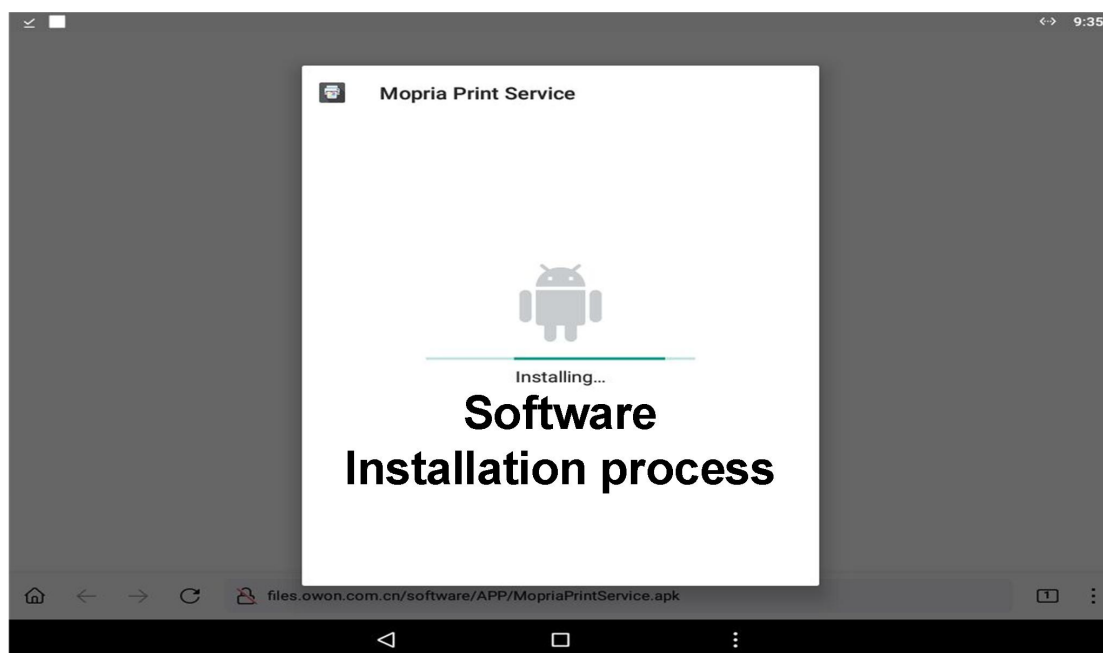

Figure 4
④ Software install produce,as shown in Figure 4.